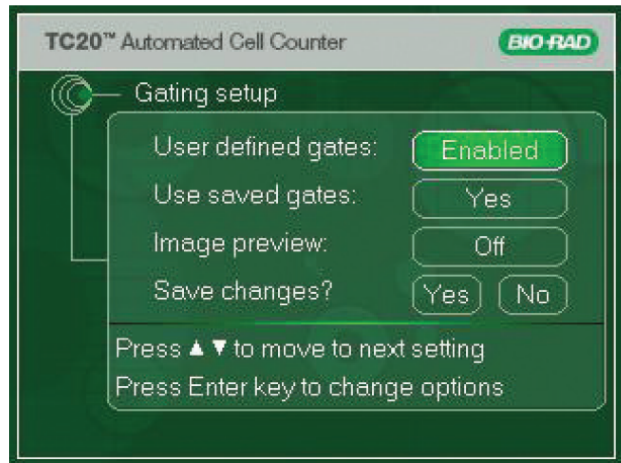
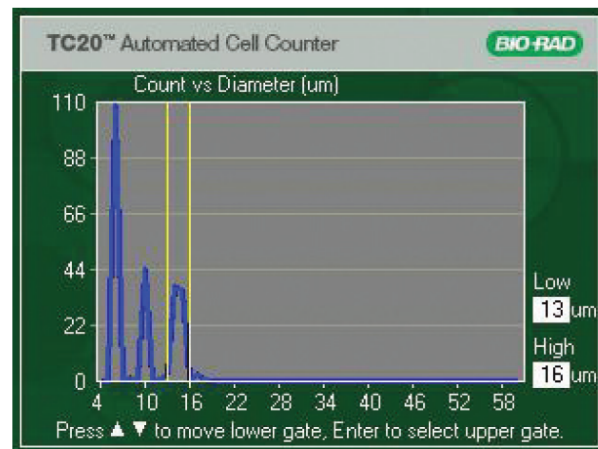

Fig. 7. Setting up gating.
Fig. 13. Counting samples with multiple cell populations.
1. Press the **down** arrow key to go to **Gating setup** (Figure 7) from the **Home** screen, and press **Enter**.
When counting samples with multiple cell populations that vary greatly in size (for example, fibroblasts with lymphocyte background) enable the **User defined gates** (Figure 7). A histogram (Figure 13) will be displayed at the beginning of the cell count; you can adjust the size gates to select the population of interest.